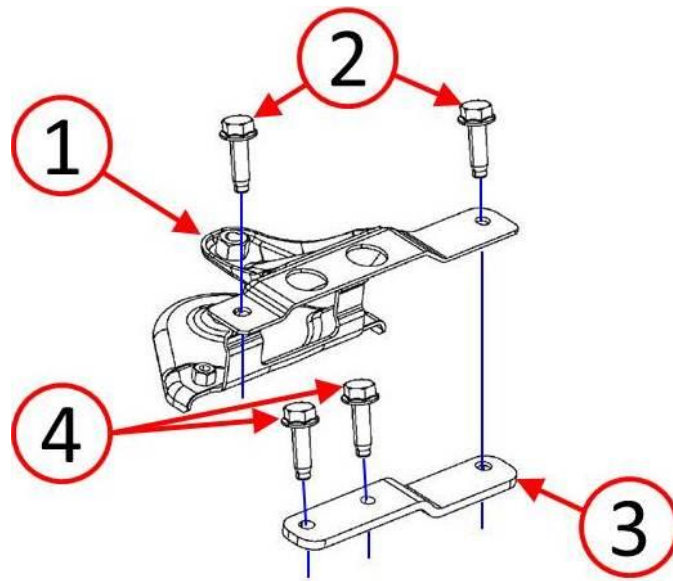

Fig. 3 Rear Engine Mount Replacement
NOTE: When replacing the Rear Engine Mount Bracket (1), remove only the outer fasteners (2). It is not necessary to remove the center fasteners (4) securing the Upper Engine Mount Bracket (3) to the front suspension crossmember (Fig. 3).